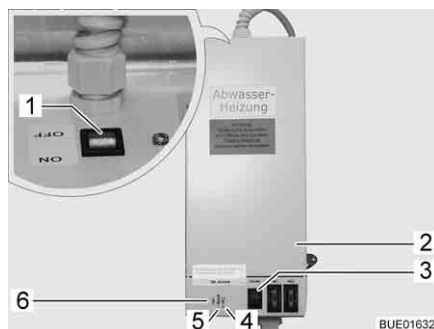

Fig. 243 Transformer with control unit
The 230 V AC/12 V DC transformer (Fig. 243,2) is installed in the wardrobe or in the storage area beneath the seating group, depending on the model.
- Indicator lamp (Fig. 243,5) lights up in green: Regulator in operation.
- Indicator lamps (Fig. 243,4 and 6) light up in red: Waste water pipes are warmed.
A test button (Fig. 243,3) is integrated in the housing with which the control unit can be operated for a short time. By pressing the test button, the function of the warming unit can be tested, even if the ambient temperature is above 5 °C.
- Turn switch (Fig. 243,1) on the transformer (Fig. 243,2) to "ON".
- Turn switch (Fig. 243,1) on the transformer (Fig. 243,2) to "OFF".